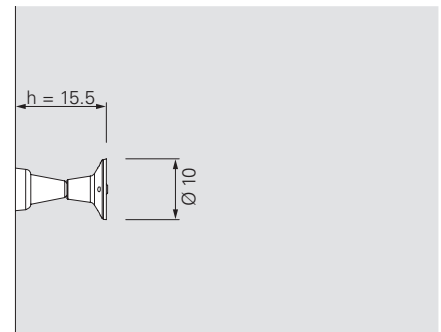

Fig. A5.04a
1. Fully insert Screw-On Cone-2 M24/DW 20 (**21**) into Threaded Anchor Plate DW 20 (**20**). (Fig. A5.04a) Anchoring depth $h = 15.5$ cm. (Fig. A5.04a)